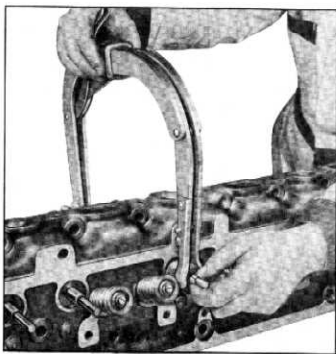

Fig. 12—Valve Lifter Tool
16. Place cylinder head assembly on its side on a bench then, using Valve Lifter tool KMO-642, compress valve spring and remove valve lock, seal, spring cup and spring. Repeat this operation on each valve (fig. 12).